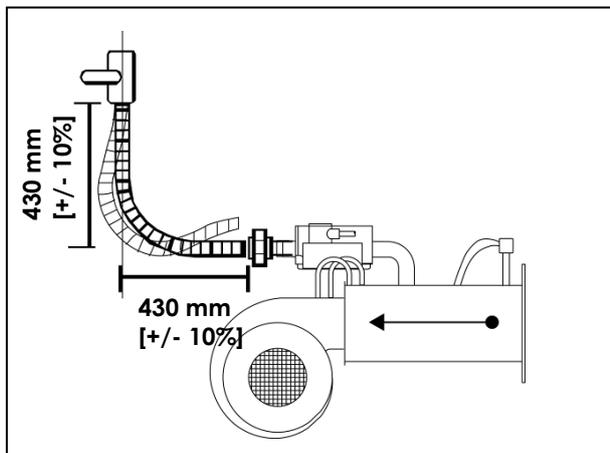

Fig. 30: Standard connection [vertical] 90° bend
- ⇒ Mount a flexible hose only with 90° bend or with 2 x 90° elbow fittings in a 180° bend according to Fig 30, 31 and 32.